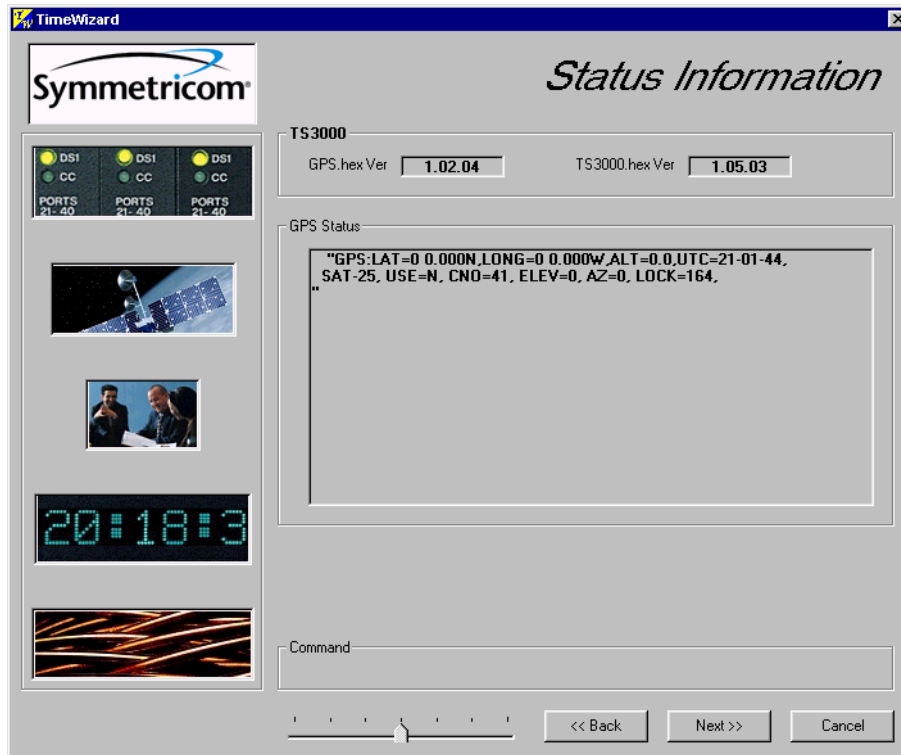

Figure 3-26. The Status Information Screen
12. After the firmware has downloaded successfully, the Status Information screen appears, as shown in Figure 3-26.